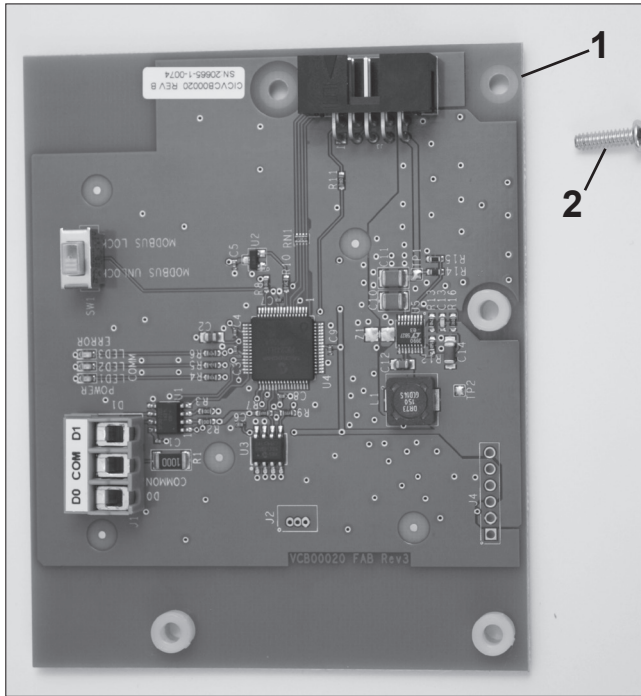

Figure 3 - Communication Module
2. Verify parts received to the parts listed in **Table 2** and **Figure 3** above.